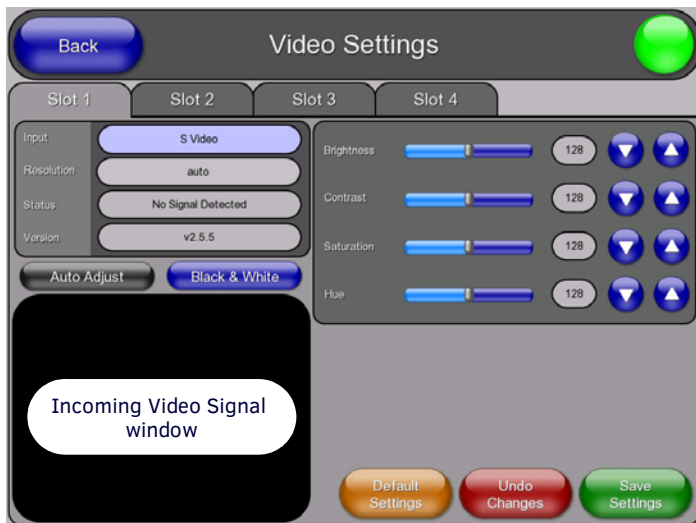

FIG. 62 Setup - Video Settings Page (Input Type = Composite or S-Video)
- If you have selected **Composite** or **S-Video**, the Video Settings Page contains the options shown in FIG. 62.